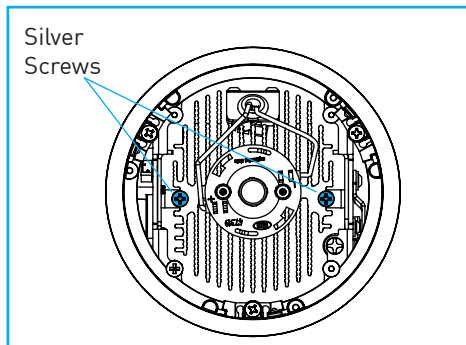

Fig.26
- Using standard Phillips-head screwdriver, remove 2 silver screws from black heat sink to detach LED engine from trim *"Fig.26"*.
- Applying upward pressure to support weight of LED engine, use standard Phillips-head screwdriver, remove 2 silver screws from black heat sink to detach LED engine from trim *"Fig.26"*.